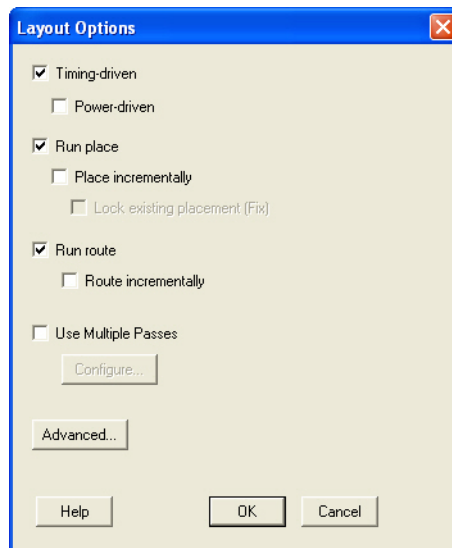

Figure 1-36 • Layout Options in Designer
15. Click **OK** to accept the default layout options (Figure 1-36).